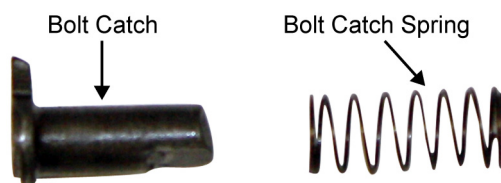

Figure 12. Bolt Catch and Bolt Catch Spring.
16. Pull apart the bolt catch and bolt catch spring. Refer to Figure 12.